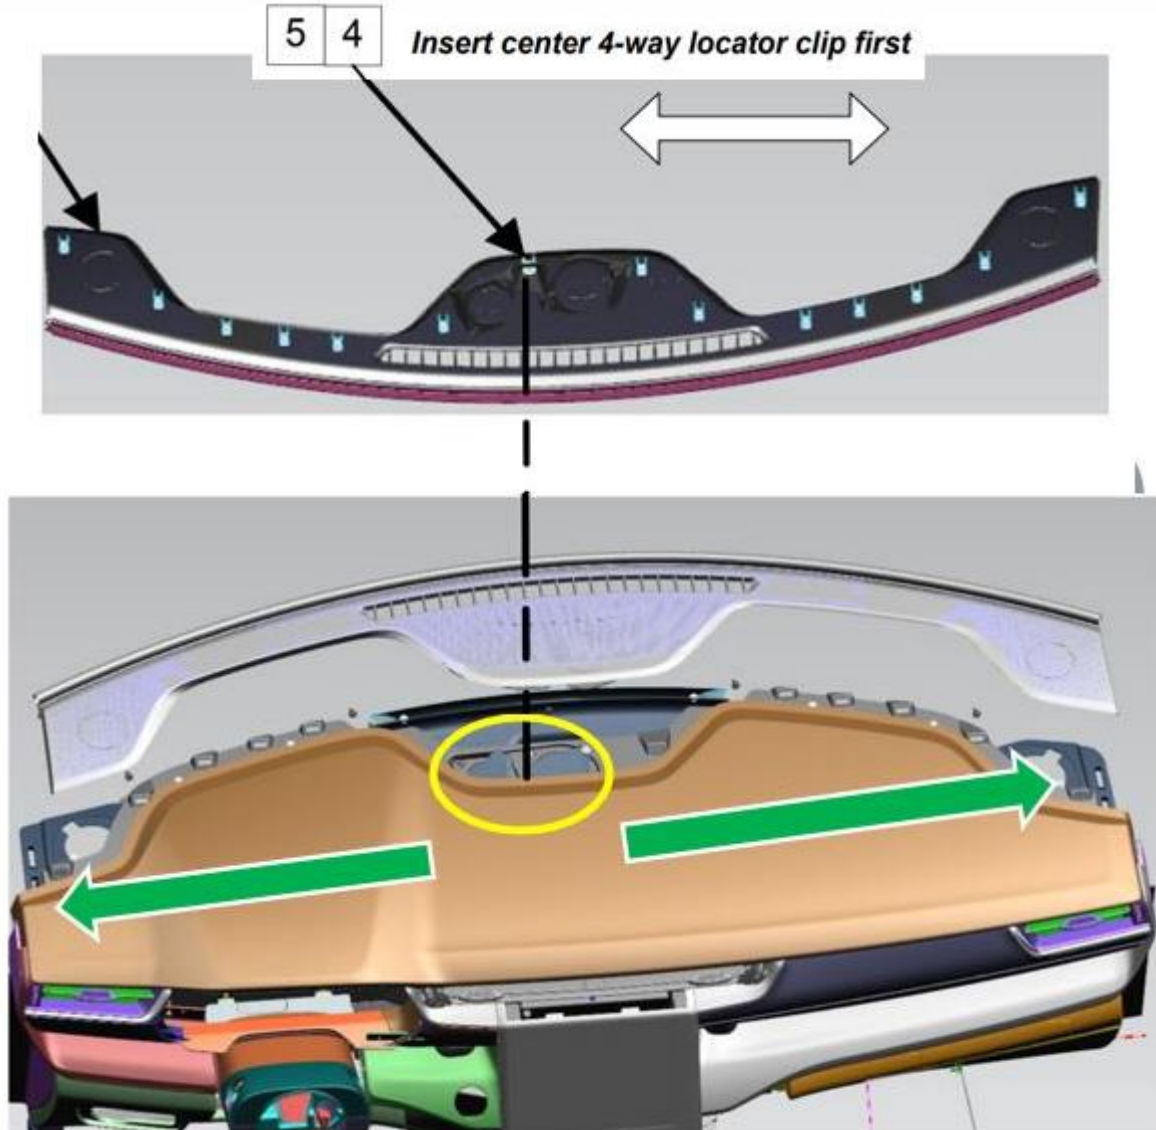

Fig 5.
- 10.) Reinstall the defroster grille by starting with the center 4-way locator. This clip is in the center left of the defroster grille. (Fig 5)